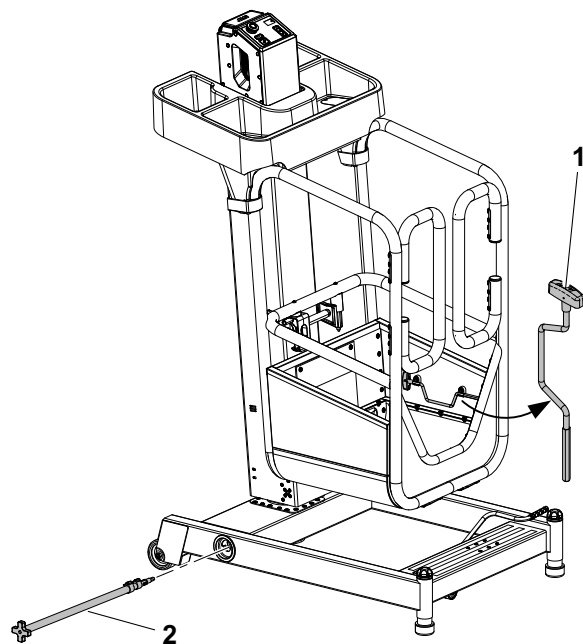

Figure 2-5. Location of manual descent tools
8. **Manual Descent Crank** - Ensure it is present and securely attached in platform (See Figure 2-5.).